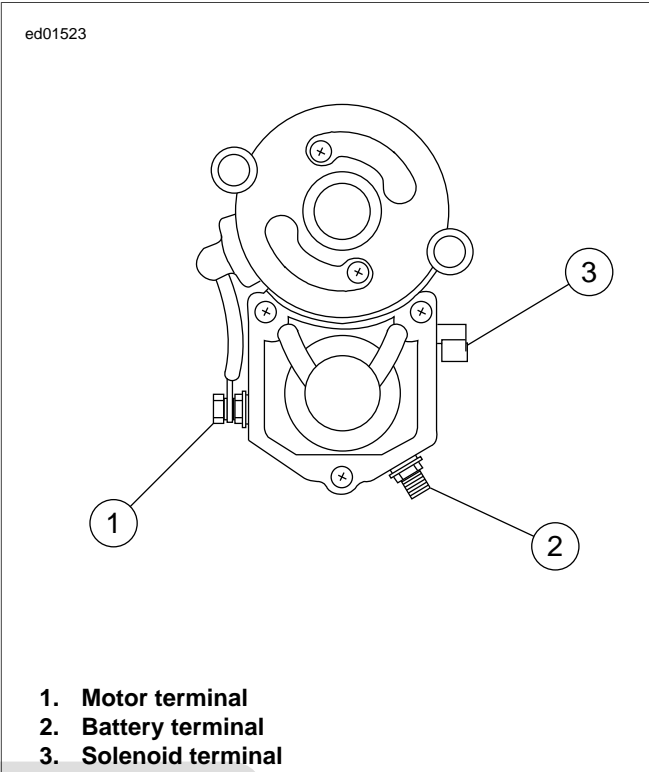

Figure 1-2. Starter Terminals
- 1. See Figure 1-2. Perform test for 1.5 DIAGNOSTICS/TROUBLESHOOTING, Voltage Drops.